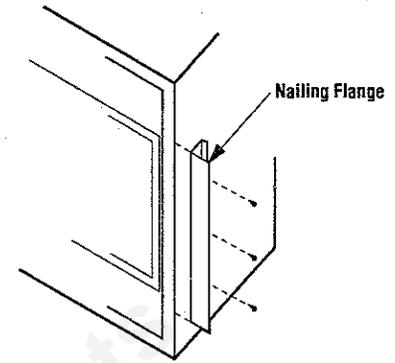

Figure 9
**Step 3.** The nailing flanges are installed at each side of the appliance backwards when shipped from the factory, to protect the unit from shipping damage. Remove the nailing flanges from the appliance and install in place (as shown in Figure 9) with three (3) screws each. Align with the three holes on each side of the appliance, ensuring that the face of the flange is in a plane ½" behind the appliance front face.